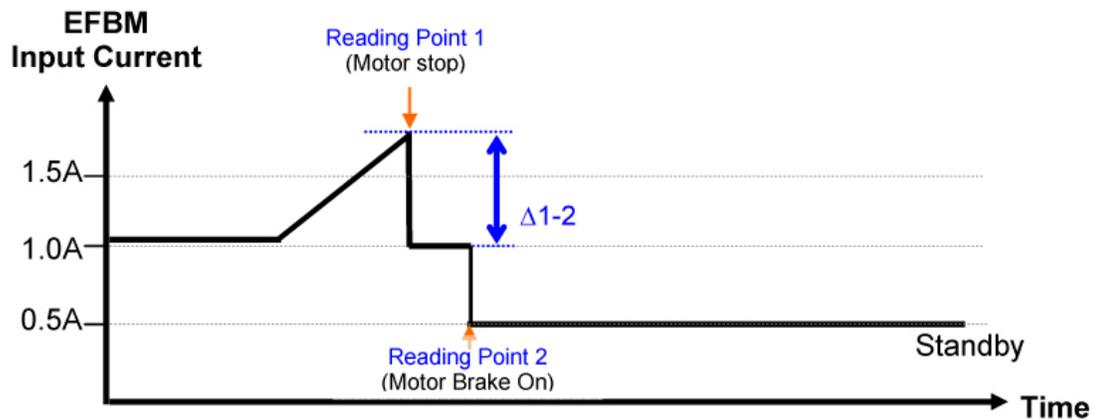

Figure 10. One Peak Waveform Image of EFBM Input Current.
BEP primary current can be measured using FLUKE current probe and scopemeter, then crewmember and/or ground support members can check if BEP primary current profiles have one(two) peaks and/or sudden falling pattern as shown in Figure 10(11). If they cannot confirm these peaks, this indicates that the torque detection circuit has failed.
1. The following cursor settings will measure the maximum current value for the reading points (two or four). The goal is to determine the delta between Reading Points 1 and 2 (or Reading Points 3 and 4). Refer to Figure 10(11).
- Refer to Figures 10 and 11.